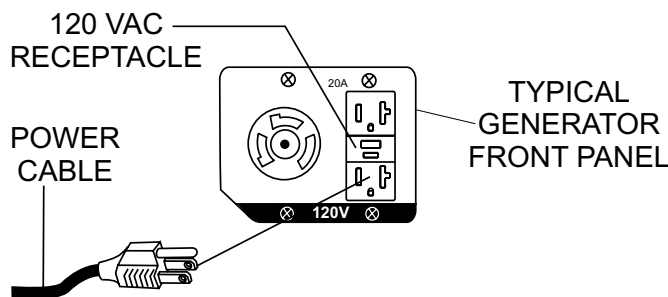

Figure 17. Connecting to Power Source
2. Connect the AC power cable to the 120 VAC receptacle on the generator used. See Figure 17.